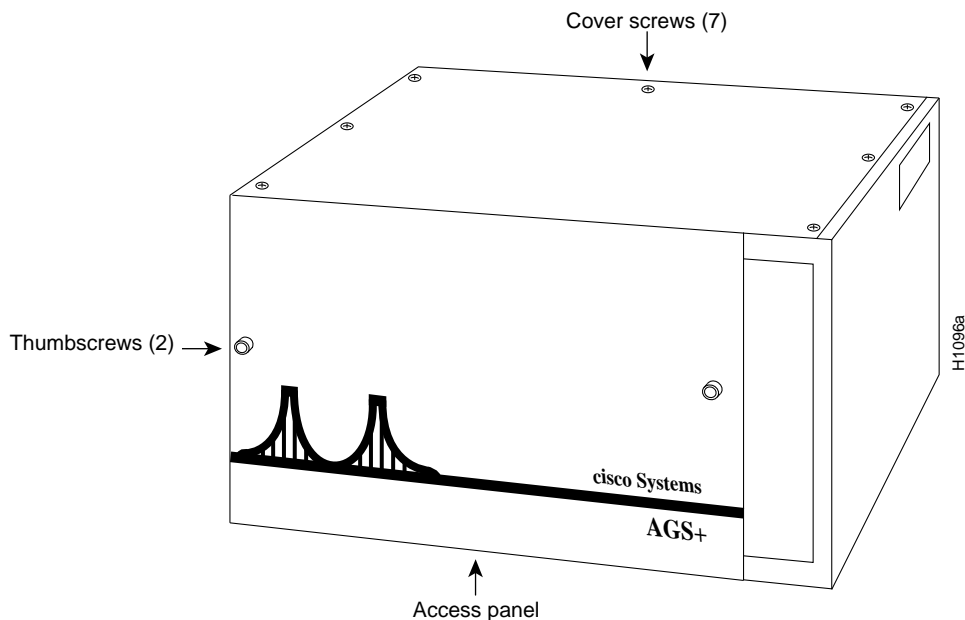

Figure 2 Chassis Front and Top Panels
- Step 5** To access cards in the card cage, loosen the two thumbscrews and remove the front panel from the chassis. (See Figure 2.) If you wish to access cards in the card cage only, skip the next step.
- Step 6** To access other system components, locate and remove the seven No. 1 Phillips screws securing the top cover. (See Figure 2.) Set the top cover and screws aside.